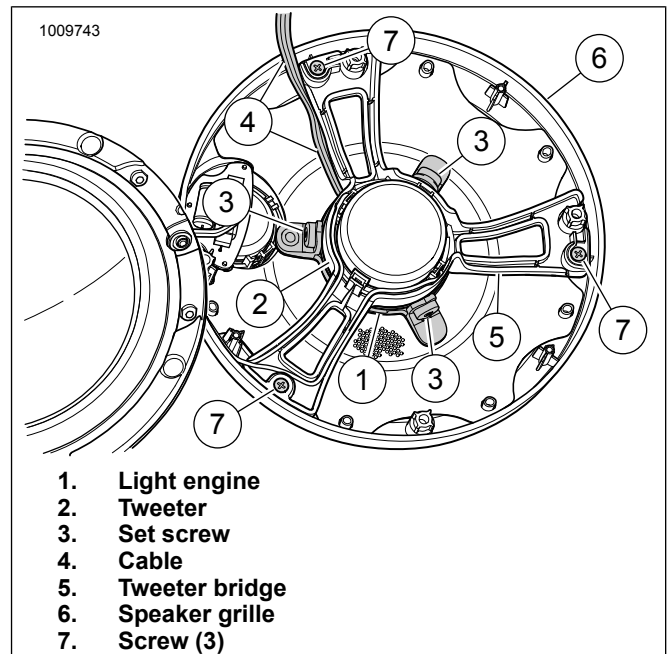

Figure 13. Speaker Grille, Tweeter Bridge and LED Light
5. See Figure 13. Remove the three screws that hold the tweeter bridge (5) to the speaker grille (6) and carefully separate the two. Use caution as not to damage or stress the tweeter speaker wires. Retain hardware for later use.
See Figure 13. Place light engine (1) on tweeter (2) as shown. Lightly compress light engine in place.